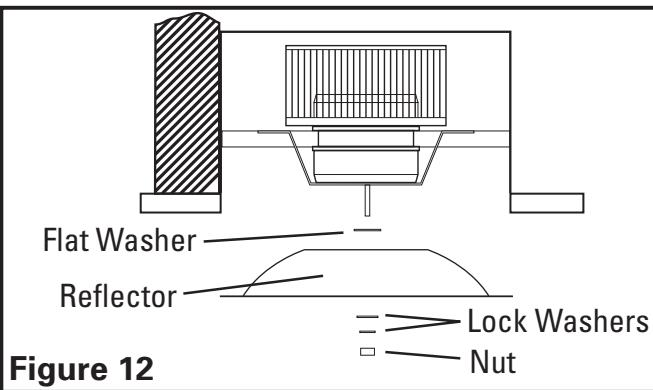

Figure 12
- Reinstall the light reflector by securing in place on the mounting bolt with the flat washer then the reflector, two lock washers and reflector nut. Tighten nut fully (**Figure 12**).